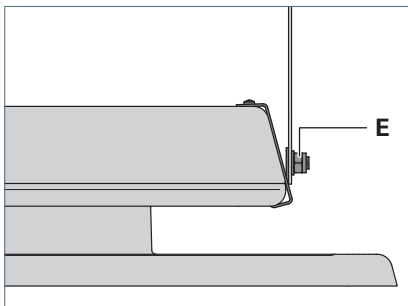

Fig. 11: Fixing the luminaire.
- ▶ Tighten the hexagon nuts **E** to a torque of **20 Nm** on both sides of the luminaire, see Fig. 11.